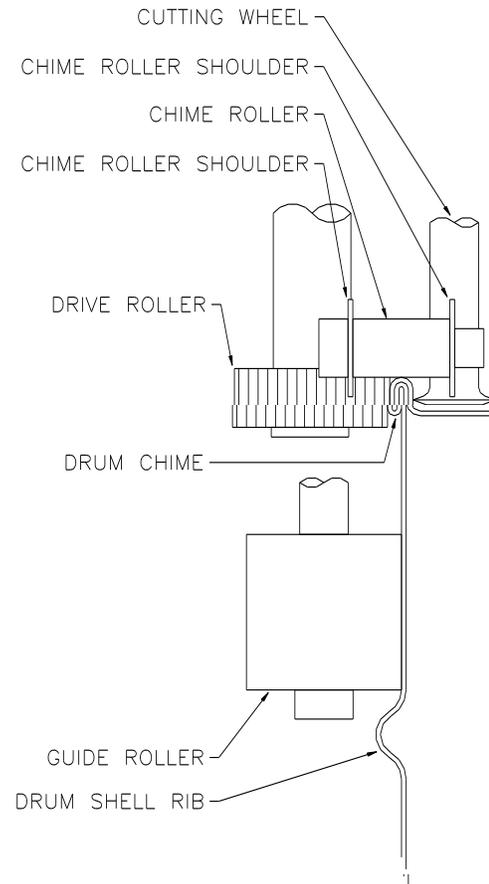

Figure 1: Wiz-Kid Set-up
1. Place the unit on the drum by resting the chime rollers on the drum chime with the cutting wheel to the inside of the drum. The chime should be between the chime roller shoulders. The guide rollers are adjustable and should support the unit on the drum shell just above the shell rib (see figure 1).